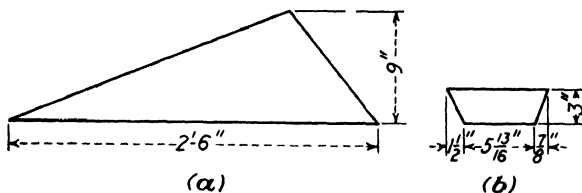

Fig. 300.
20. Find the area in square inches of each figure in Fig. 300.